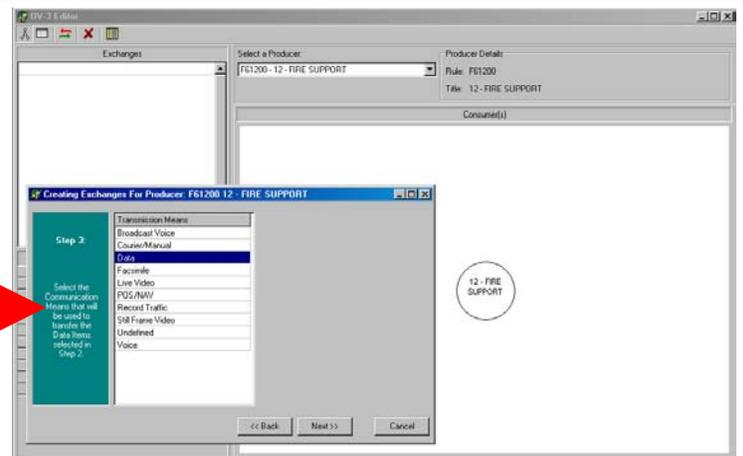

Figure 6: Exchange Wizard Step 3
STEP 3: (figure 6) The user selects the Communication Means (CM) (Data, Voice, Video, etc) from the standard CADM listing that will be used to transfer the Data Items selected in Step 2. More than one Communications Means may be selected and an Exchange entry on the OV-3 will be created for each combination of DIT and CM